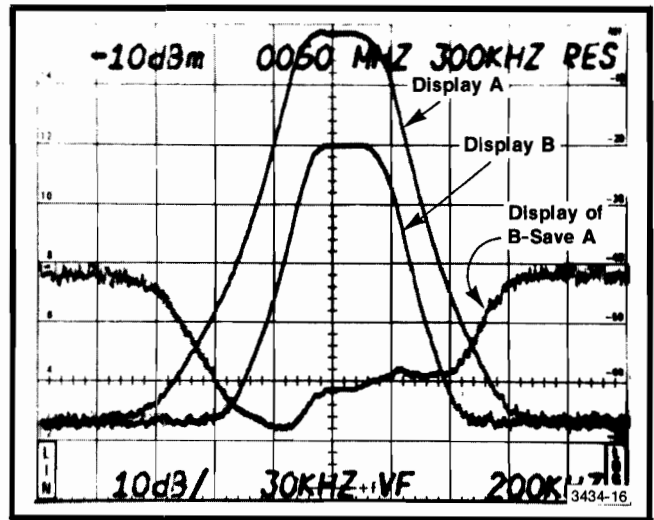

Fig. 2-7. Using digital storage to measure the difference between two displays.
d. Activate B-SAVE A and check display. It should show the difference between DISPLAY B and DISPLAY A (see Fig. 2-7).